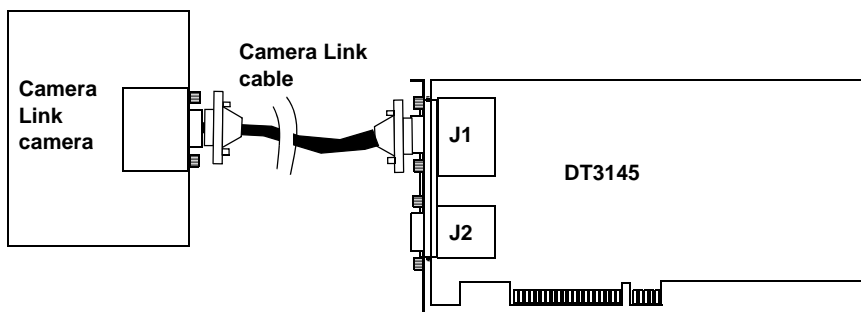

Figure 4: Connecting the Camera to Connector J1
3. Push the other end of the Camera Link cable into the connector on your Camera link camera, and tighten the screws on the connector. Refer to Figure 4.